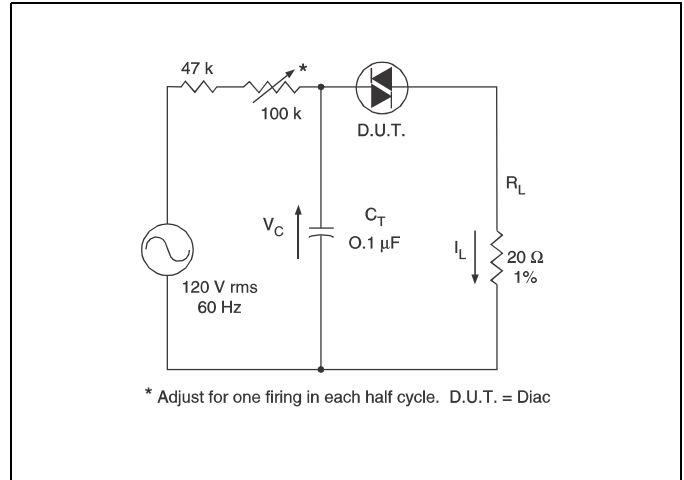
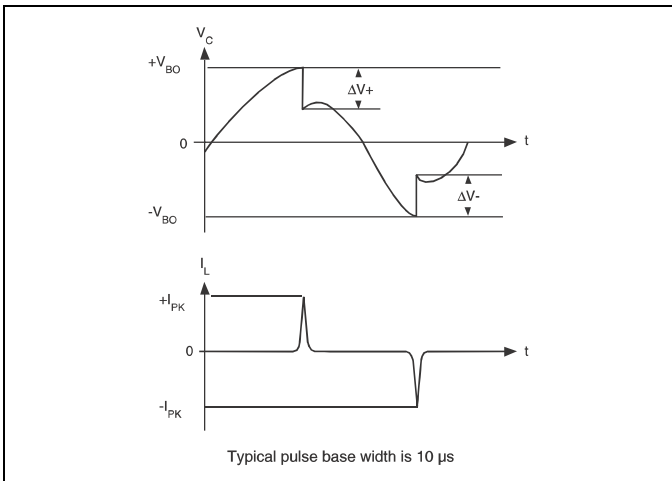

Figure E8.5 Circuit Used to Measure Diac Characteristics (Refer to Figure E8.4.)
Figure E8.4 Test Circuit Waveforms (Refer to Figure E8.5.)
- (1) Breakover voltage symmetry as close as 1 V is available from the factory on these products.
- (2) See Figure E8.4 and Figure E8.5 for test circuit and waveforms.
- (3) Typical switching time is 900 nano-seconds measured at I_{PK} (Figure E8.4) across a 20 Ω resistor (Figure E8.5). Switching time is defined as rise time of I_{PK} between the 10% to 90% points.
- (4) See V-I Characteristics.